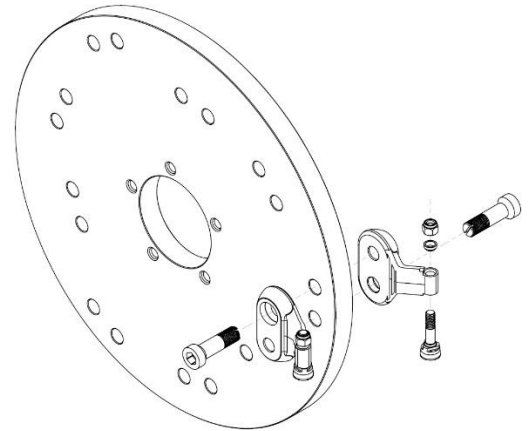

Figure 1.1
7. Slide the bolts through the empty holes in the wheel and thread them into the adjacent pocket's threaded holes. For now, firm up the bolts until pockets are seated. (Figure 1.1)